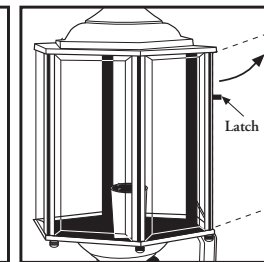

Figure 4
- For fixtures with a hinged door, simply lift latch to open door. Insert bulb(s) and secure door closed with latch (see figure 4).